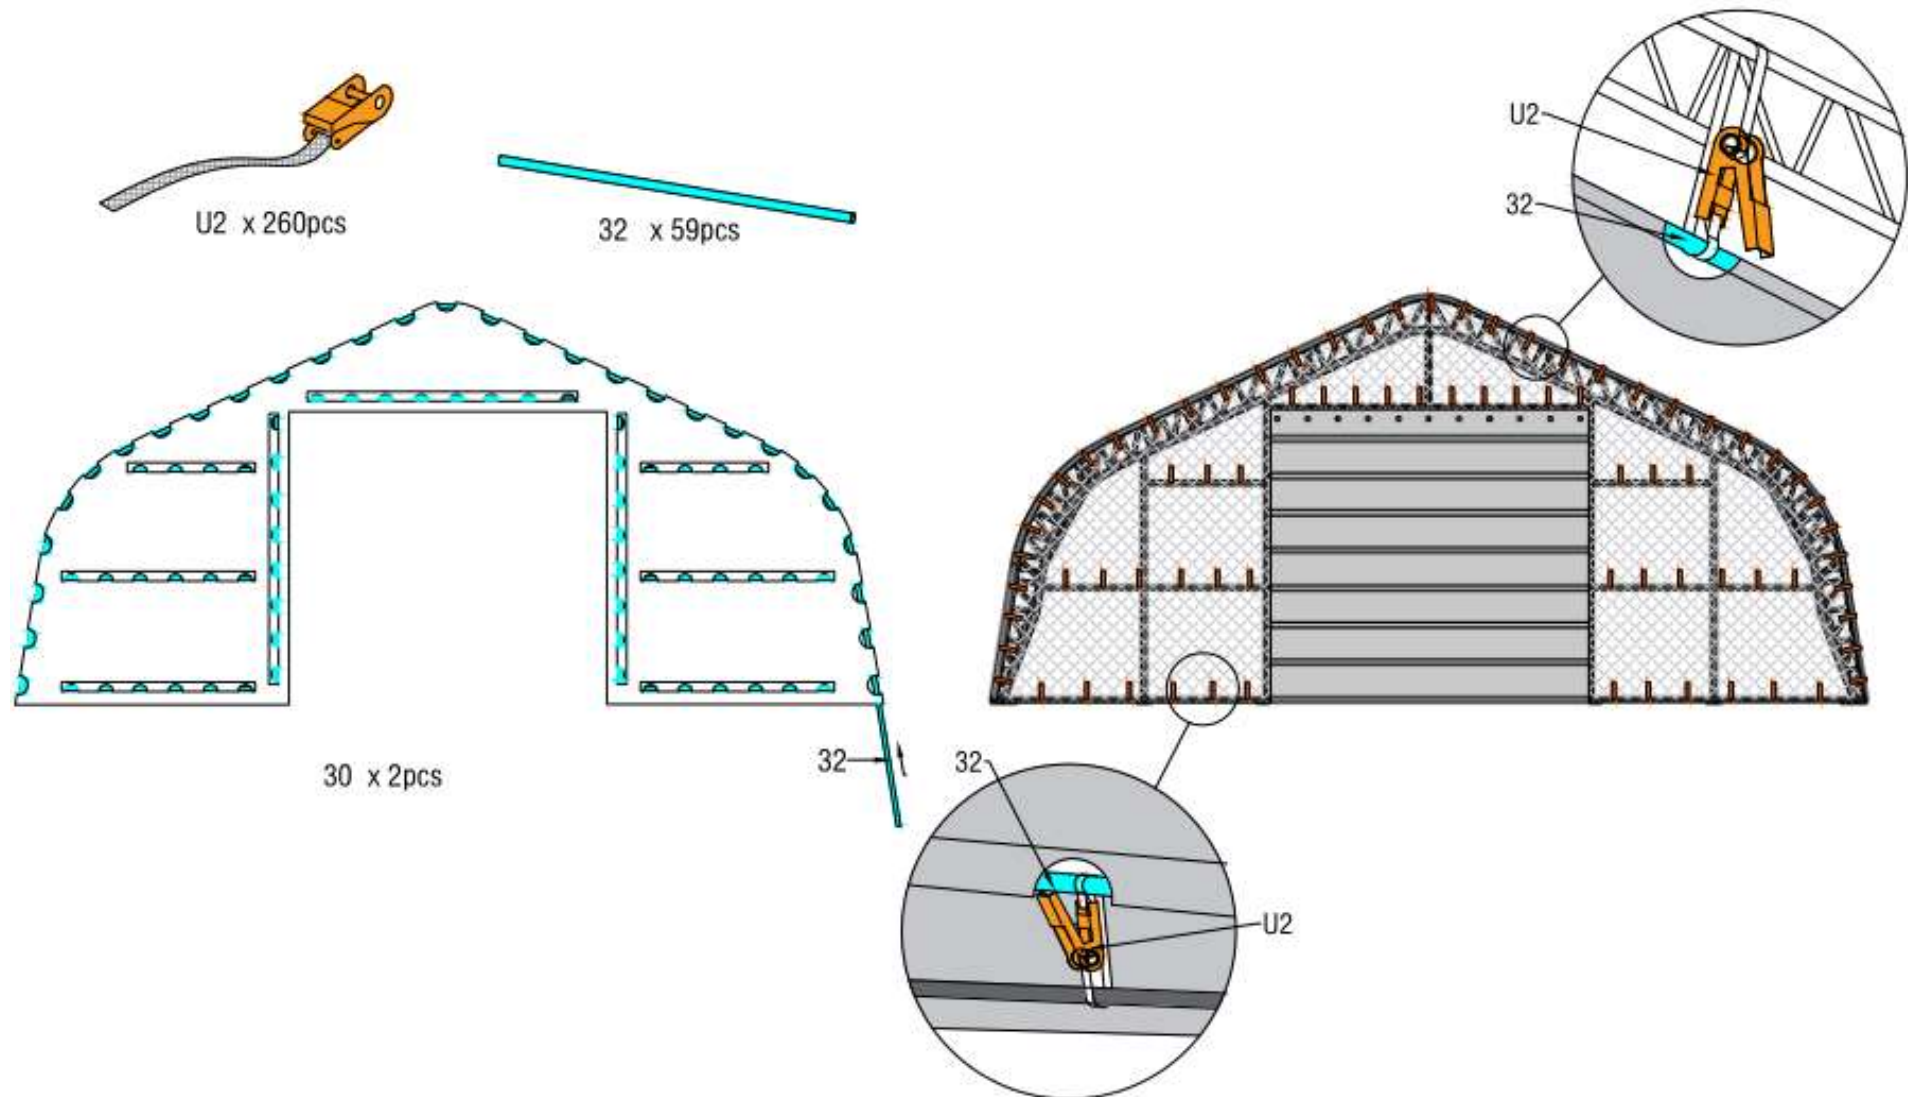

Figure 17
4. When you close the door ,we can use the Lock steel wire for door(No.U27) and Lock steel wire for the wrench handle to fix.(Figure 17)